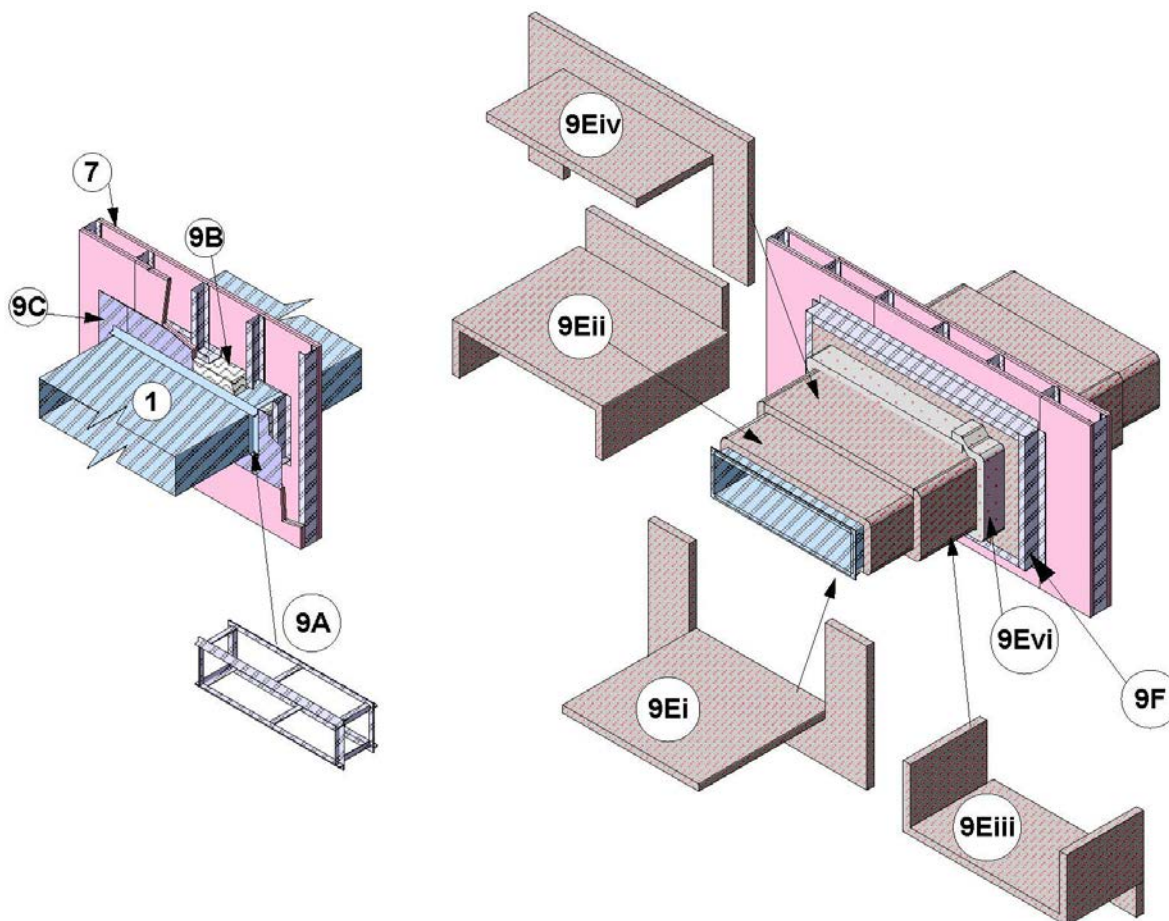

Figure 2
A. **REINFORCEMENT CAGE** – Install a reinforcement cage made from 32mm (1.25 in.) x 32mm (1.25 in.) x 5mm (3/16 in.) angle and 32mm (1.25 in.) x 5mm (3/16 in.) flat stock as shown in Figure 2. Bolt the two sides of the reinforcement cage with M8 (or equivalent) bolts. Center reinforcement cage in the supporting construction. Once centered, bolt the reinforcement cage to the Ventilation Air Duct (Item 1) using M8 bolts (or equivalent) spaced max. 203mm (8 in.) oc with a min. of one bolt on each side.